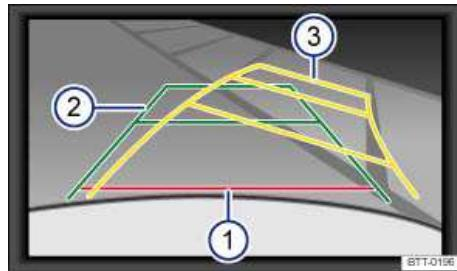

Fig. 156 On the screen: Orientation lines of the parking area behind the vehicle.
| Switch on the display automatically: | Shift into Reverse (R) with ignition switched on or engine running. Mode 1 is displayed => fig. 156 . | |
Meaning of the orientation lines projected on the screen ⇒ fig. 156. All distances of the orientation lines refer to a vehicle on a level surface.